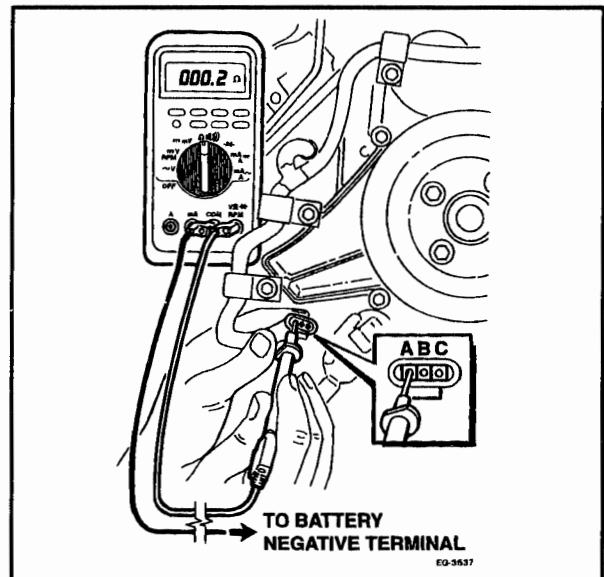

Figure 3.4-2. Measuring Resistance to Ground
- Signal ground (marked "A" on all engine sensor harness connectors should measure less than 5 ohms. (Signal ground on vehicle sensor connectors vary). **Figure 3.4-2.**